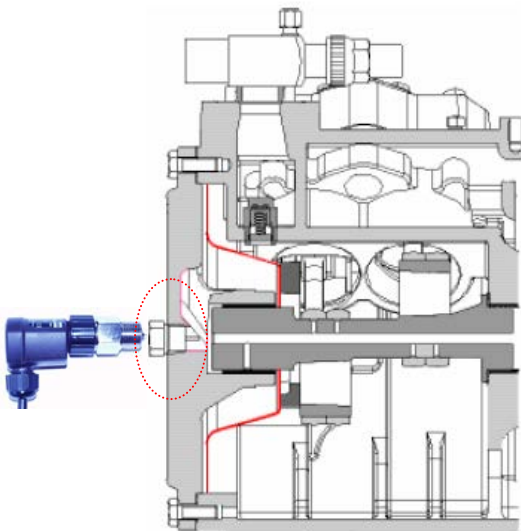

Figure 2.17
2. Remove the M20 center bolt and metal gasket. (Figure 2.17). No gasket indicates that the end bell has NPT thread and requires an OLC-K1 with NPT threads.
4. Install the electrical sensor into the adapter and tighten the coupling ring approximately 10Nm or 7.4ft-lb (Figure 2.17). Pay attention to the position of the lead (cable exit downwards). For wiring directions, refer to the electrical appendix.